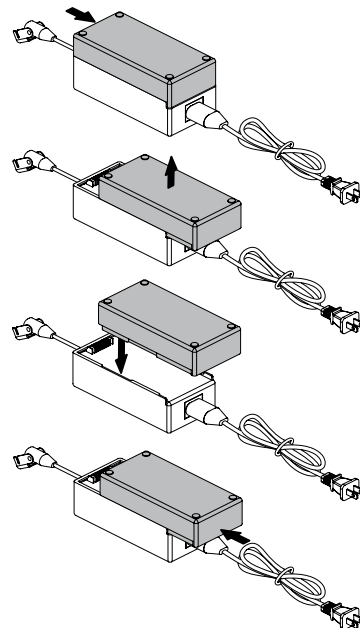

Figure 6.8.2 Lithium-ion Battery Replacement
5. Place the new lithium-ion battery on top of the external transformer with the securement grooves toward the external transformer. (Figure 6.8.2)